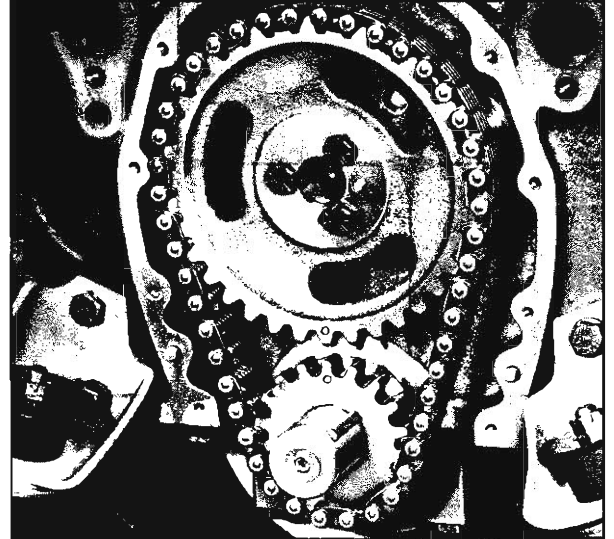

Fig. 11W—Timing Sprocket "O" Marks
2. Crank engine until "O" marks on camshaft and crankshaft sprockets are in alignment (fig. 11W).